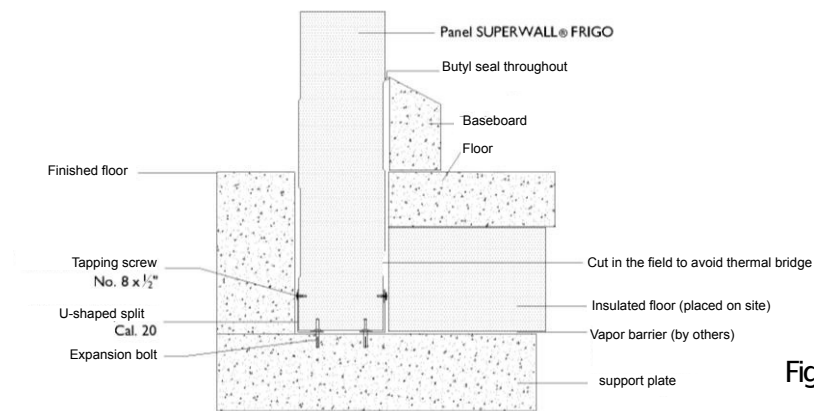

Fig. 6
- 4.3.9** In the case where the panels are produced with a self-adhesive transparent film, it must be removed on land before the first installation, but only in the part where the panel is going to be outdoors since it is advisable to leave this film for the casting of the concrete and thus prevent the sheet from being damaged by direct contact with the concrete.(Fig. 6)